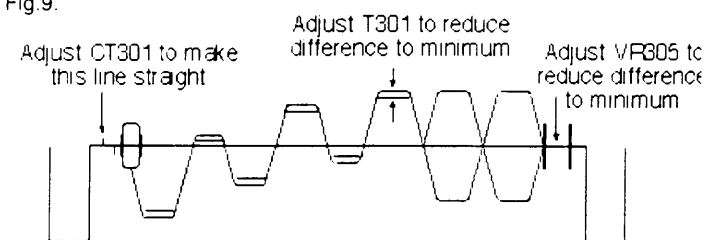

Fig 9.
- 5: Adjust CT301 to obtain the waveform as in Fig.9.
- 6: Adjust VR305 to obtain the waveform as in Fig.9.
- 7: Adjust T301 to obtain the waveform as in Fig.9.